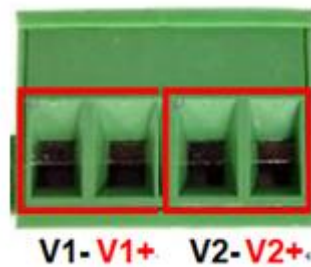

Figure 2.12
1. Insert the positive and negative wires into the PWR1 (V1+, V1-) and PWR2 (V2+, V2-) contacts on the terminal block connector as shown below in *Figure 2.12*.